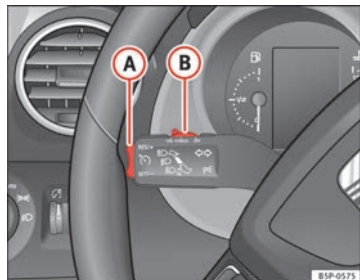

Fig. 149 Turn signal and main beam headlight lever: switch and rocker switch for the cruise control
- Push the switch ⇒ fig. 149 **B** to the left to **ON**.